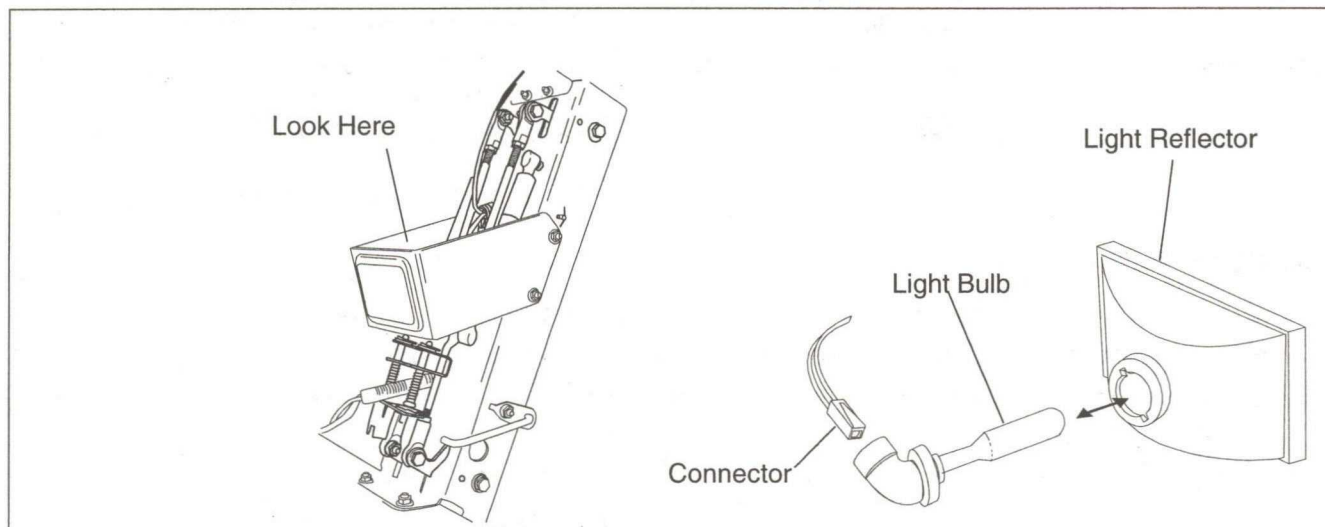

Figure 17
8. Locate the rear of the light fixture where the wire attaches. (See Figure 17)
9. Remove the wire from the light bulb assembly. (See Figure 17)